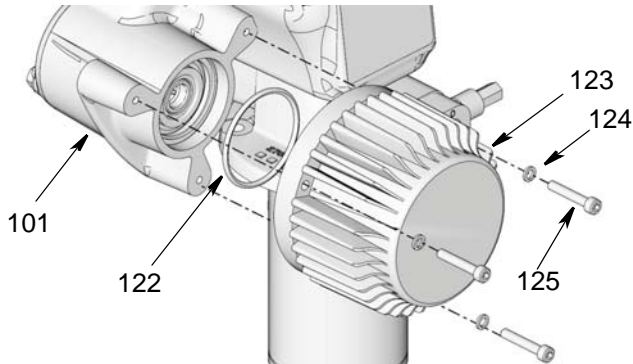

FIG. 59
2. Apply a thin layer of grease to o-ring (122). Install o-ring in motor (123) (FIG. 59).
3. Install new motor (123) using screws (125) and washers (124) (FIG. 59). Use a wrench to tighten screws securely. Torque to 17-19 ft lbs (23 - 25 N.m).